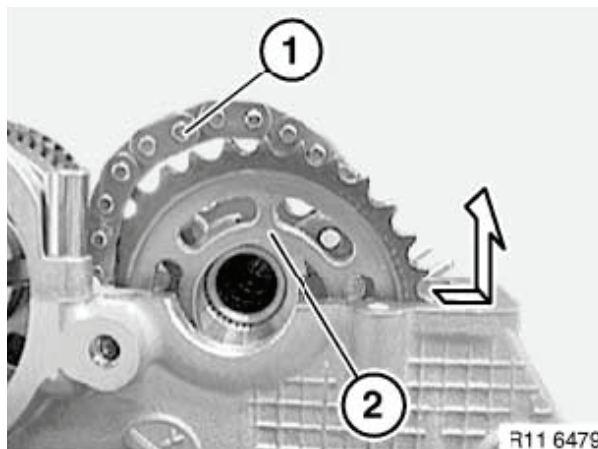

Figure 5-99
18. Remove camshaft sprocket (**Figure 5-99, (2)**) from chain (**Figure 5-99, (1)**) as shown by arrow.